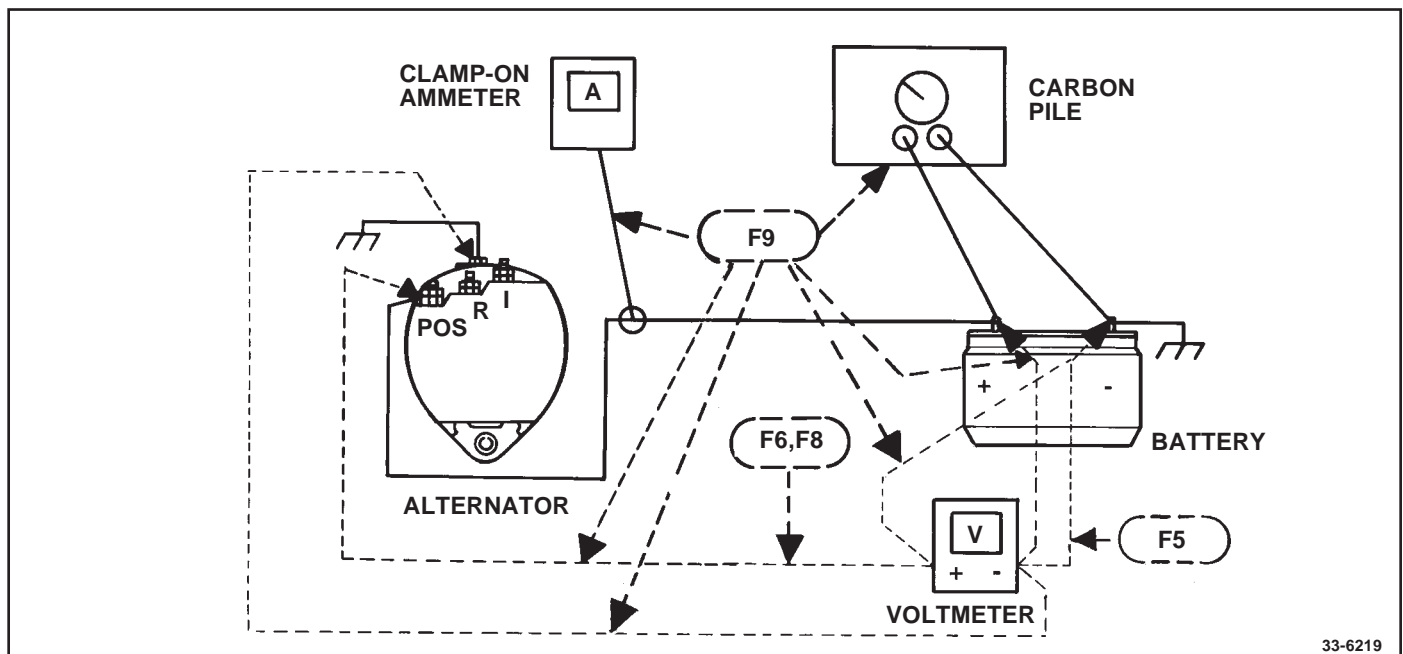

Figure 9. Rated Output Check
1. Refer to Fig. 9 for test equipment hookups as described in following steps. If inductive pickup ("clamp on") type ammeter is used, place current clamp on alternator output lead and skip to Step 4. If series ammeter is used, disconnect grounded battery cable at battery first.